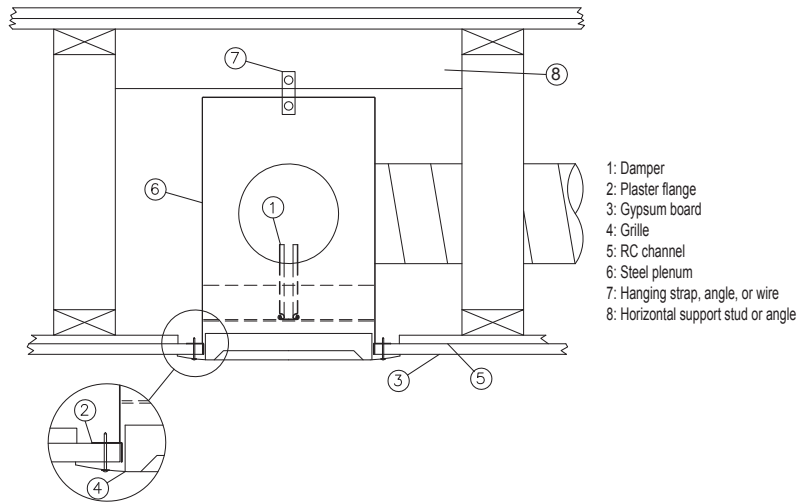

Figure 3: Hanger Method: Grille Mount with Steel Plenum
- 1) Dampers shall be supported in a minimum of two places on opposite sides of the damper with a minimum 1½ in. x 24 gauge steel strip, 18 swg vertical hanger wire or ¾ in. x ¾ in. x 26 gauge vertical angle. The vertical angle, steel strip, or hanger wire shall in turn be supported by a minimum ¾ in. x ¾ in. x 26 gauge steel angle or nominal 2 in. x 4 in. wood support studs. The horizontal support angles or studs shall be fastened at each end to adjacent trusses with minimum 16d nails, No. 8 screws or bolts. Only one connection per end is required (see **Figures 3 - 5**).
- 1) The grille/diffuser frame shall be steel. The grille/diffuser shall be attached with a minimum 4 - 1 in. long #6 screws run through the gypsum wall board into the plaster flange (**Figure 3 & 4**).